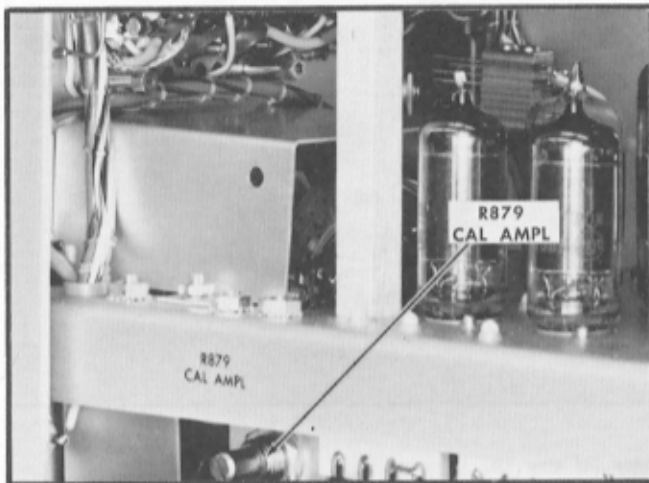

Fig. 6-8. Location of Cal Amp adjustment R879.
- Adjust the Cal Ampl R879 (Fig. 6-8) for a null on the test oscilloscope display (display appears as a straight line).